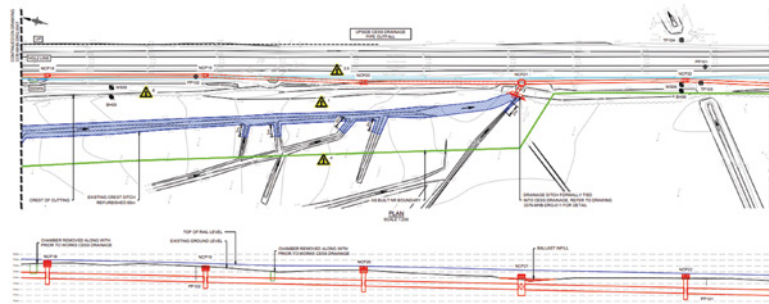

Figure 17: Longitudinal section showing crest and track drainage (extract from NR Doc. No.: 3376-MHB-REP-001).
- 700m of upgraded track drainage (**Figure 17**, overleaf)